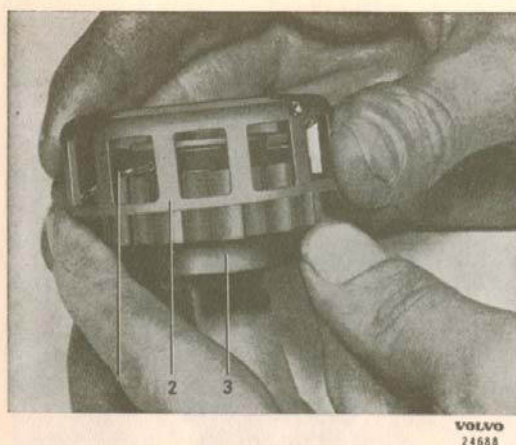
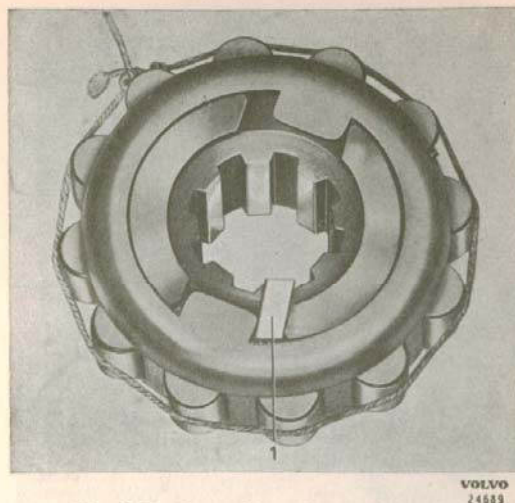

Fig. 3-52. Assembling the free wheel, I
Fig. 3-53. Assembling the free wheel, II
4. Assemble the free wheel hub (34), spring and roller retainer, see Fig. 3-52. Turn the roller retainer clockwise as far as it will go and lock it in this position with a key as shown in Fig. 3-53.